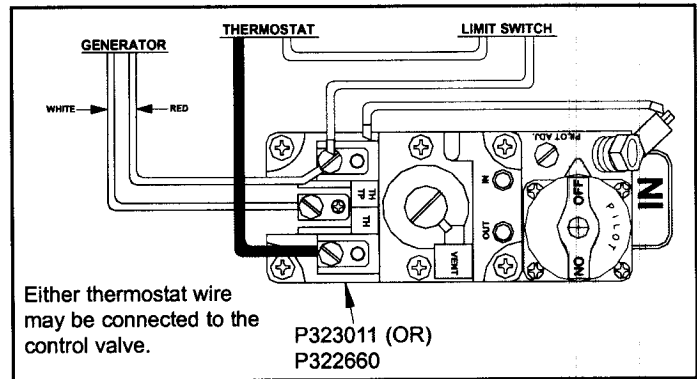

Figure 5
8. Connect thermostat wires to the control valve as shown in Figure 5.
7. Connect thermostat wires to the control valve as shown in Figure 5.